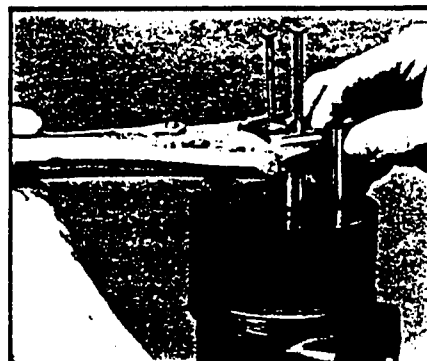

Figure 63
5. Rotate the rotor (6A) using the tool described above to seat the rotor and assembled vanes (6C) into the stator (6B) and to create necessary clearance to assemble the seventh or full complement of seven vanes. Assemble the seven vanes using minimum force. SEE FIGURE 63.
CAUTION: Too much force used to push the rotor vanes into place could shear off the coating applied to the stator vane pockets. Use care during this procedure to prevent damage to rotor set and the drive link splines, if you use your drive link as the assembly tool as shown in FIGURE 63.